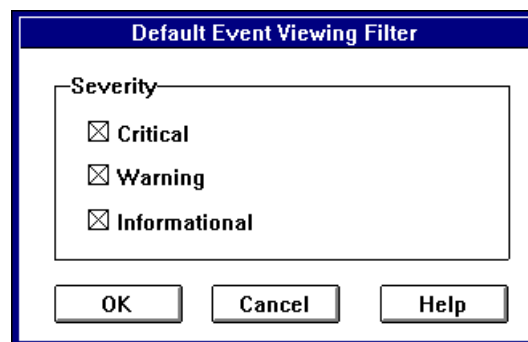

Figure 4-9. Log Filter Dialog Box
- 3 Click the **Filter** button to view the Log Filter dialog box, as shown in Figure 4-9. Select or deselect the check boxes to change the filtering of messages in the Historic Event Log, then click **OK** to save these settings.